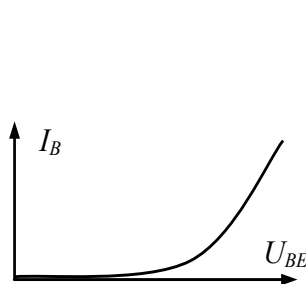

Fig. 1.23
**Input characteristic.** Fig. 1.23 displays an *input characteristic* or *transconductance (base) curve* of the CE connection. This graph of  $I_B$  versus  $U_{BE}$  looks like the graph of an ordinary rectifier diode. The maximum value of  $U_{BE}$  is limited in the transistor data sheets.